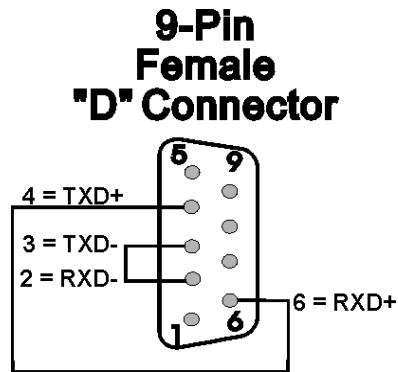

Figure 5-13. RS-485 Loop-back Plug
- RS-485 ports use a 9-pin female D-type loop-back plug (shown in *Figure 5-13*).